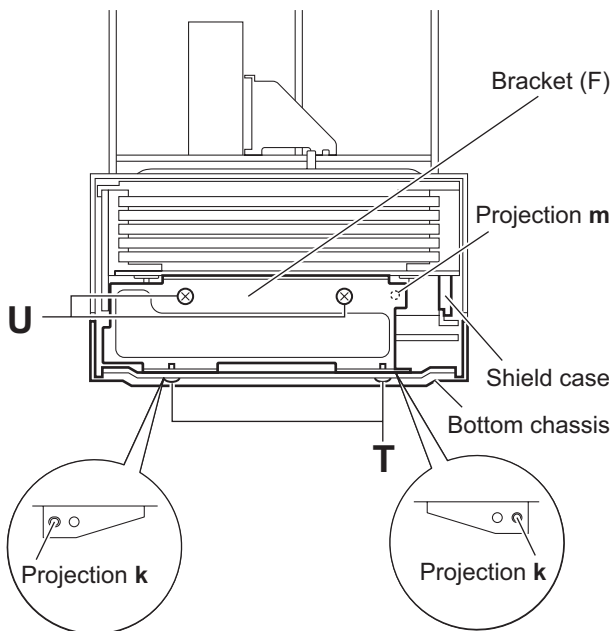

Fig.23
3.1.13 Removing the DVD changer mechanism assembly (See Figs.23 to 26)
- (1) From the bottom side of the main body, remove the two screws **T** attaching the bracket (F) to the bottom chassis. (See Fig.23)
When attaching the bracket (F), align the projections **k** of the bottom chassis in the holes of the bracket (F). (See Fig.23)
- (2) From the front side of the main body, remove the two screws **U** attaching the bracket (F) to the shield case. (See Fig.23)
When attaching the bracket (F), align the projection **m** of the shield case in the holes of the bracket (F). (See Fig.23)